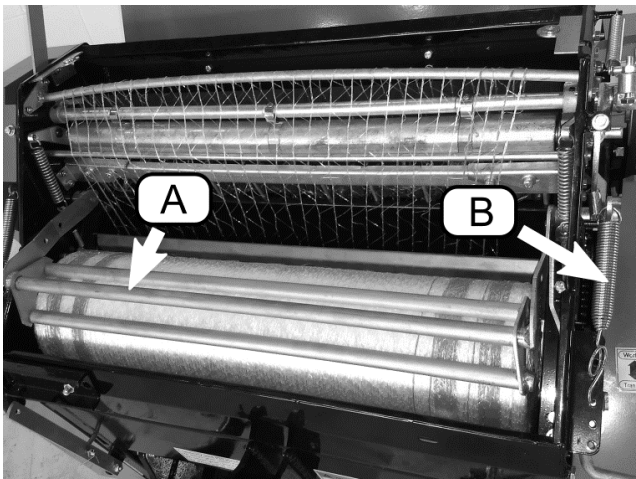

Figure 13 Front of baler
The net roll tensioner (Figure 13, A) provides necessary force to keep the net roll in place and improve net wrapping and cutting performance. See Section 4.1.1 for detail on adjustment of tension springs (B).